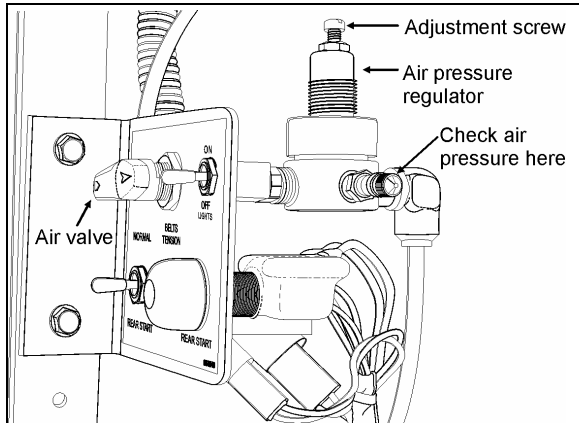

FIGURE 22: TENSIONING VALVE
1. Open engine compartment rear doors and locate the belt tensioner two-way control valve (Figure 22), mounted above the A/C compressor, then turn handle counterclockwise in order to release pressure and tension on belts.
4. Reset belt tensioning pressure control valve (Figure 22). Pressure is factory set to 45 psi (310 kPa), periodically check proper pressure.